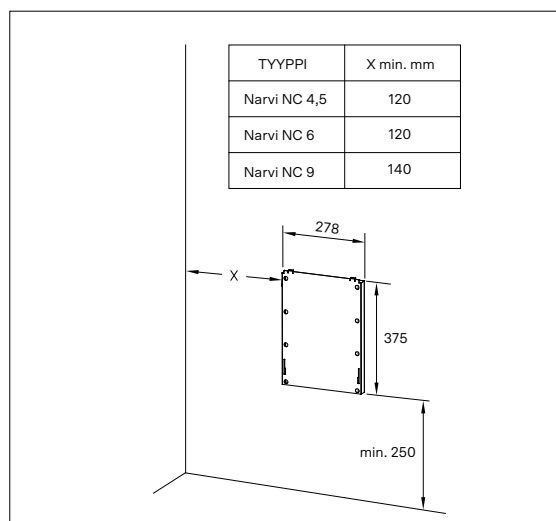

Figure 6.9-1. Installation of the Wall Mounting Plate
- Fasten the attachment plate to the wall using the screws included in the delivery in accordance with Figure 6.9-1.